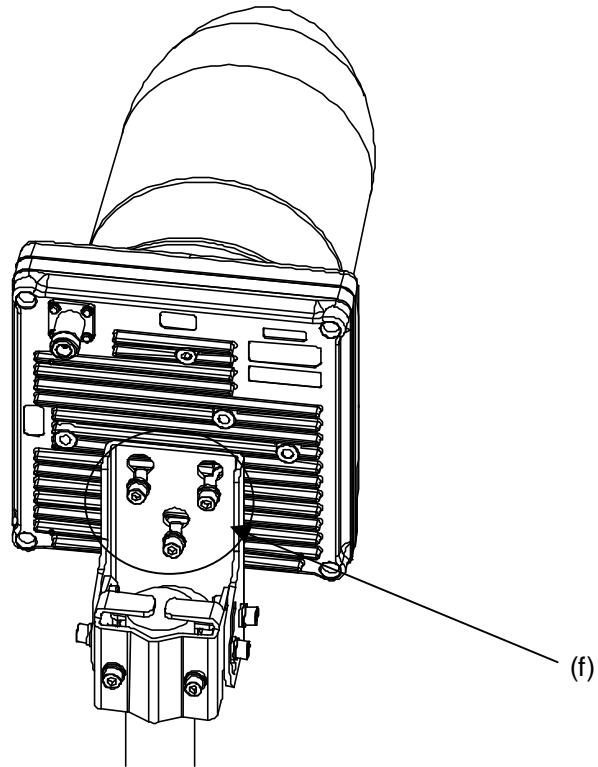

Figure 5-5 Installing the AP-RFU on the Mounting Bracket
- (3) As shown in Figure 5-5, align the AP-RFU with the openings in the AP-RFU mounting bracket and tighten the bolts (f). (Recommended tightening torque: 8.5N-m)